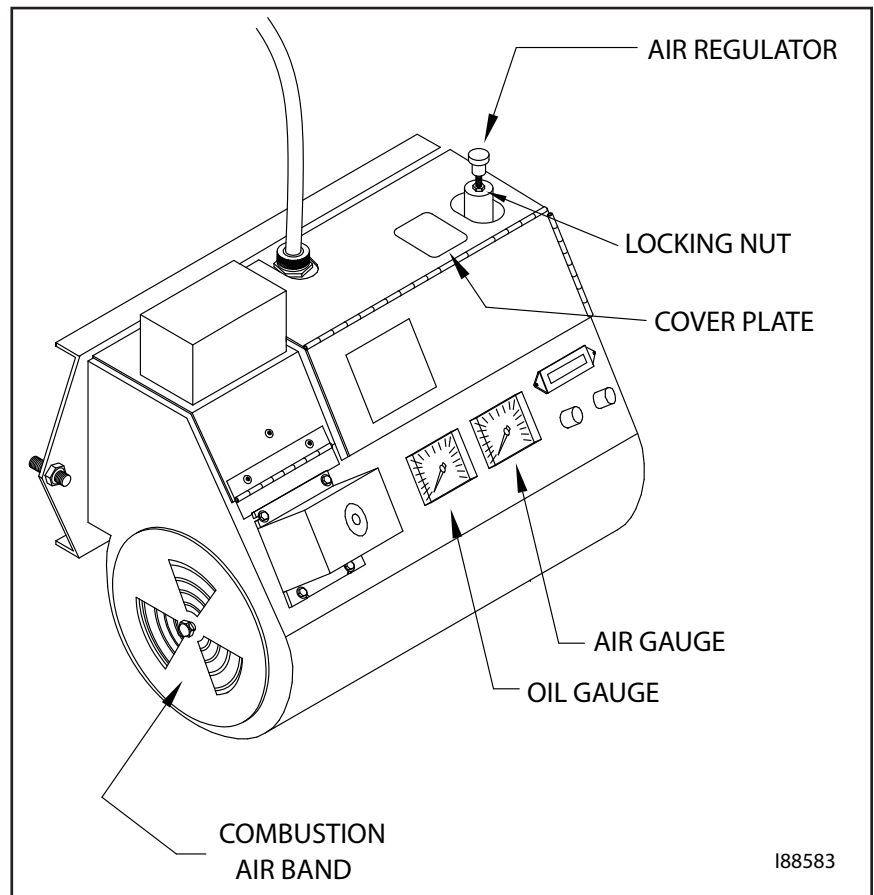

Figure 6A - Component Detail of the CB-525-S2 Burner
4. Refer to Figure 6A to locate the air regulator. Loosen the locking nut on the air regulator.
- Refer to Figure 6A to locate the combustion air band.
- Refer to Figure 6A to identify the combustion air band location on the burner.